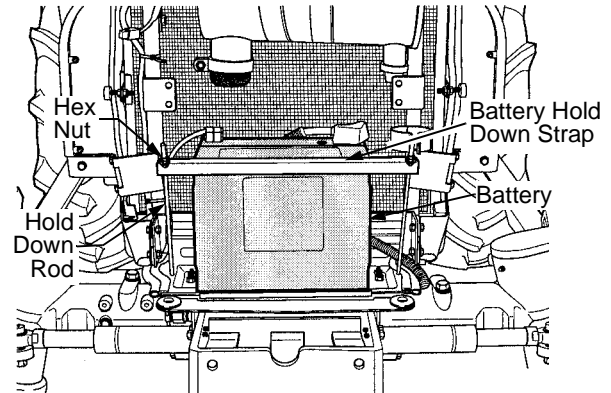

Figure 74
- Remove the two nuts and the battery hold-down strap from the battery hold-down rods. See Figure 74.